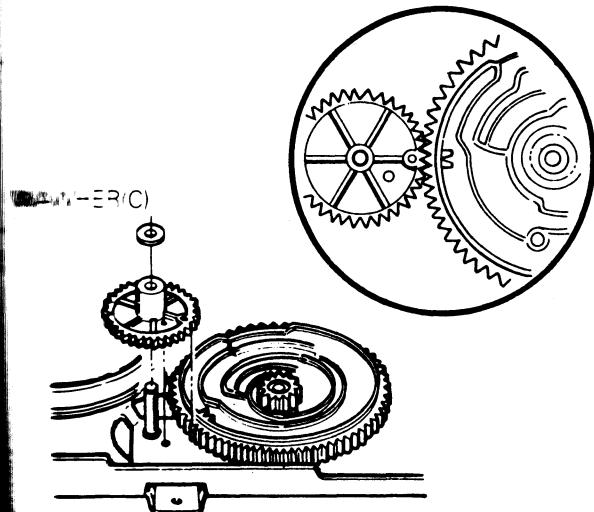

Fig. B-25 PC Gear
- ① Align the Projection of Rack Gear T with the hole of Loading Gear.
- ② Drive the Rack Gear F.L in the direction of arrow(D).
- ③ Hole of Cam should be aligned with the hole of chassis, and the groove(■) of Cam Gear should be aligned with the hole of PC Gear(Fig. B-25)
25. PC Gear(Fig. B-25)
The Groove of PC Gear should be aligned with the groove of Cam Gear, and another hole of it should be aligned with the hole of chassis(Fig. B-25).